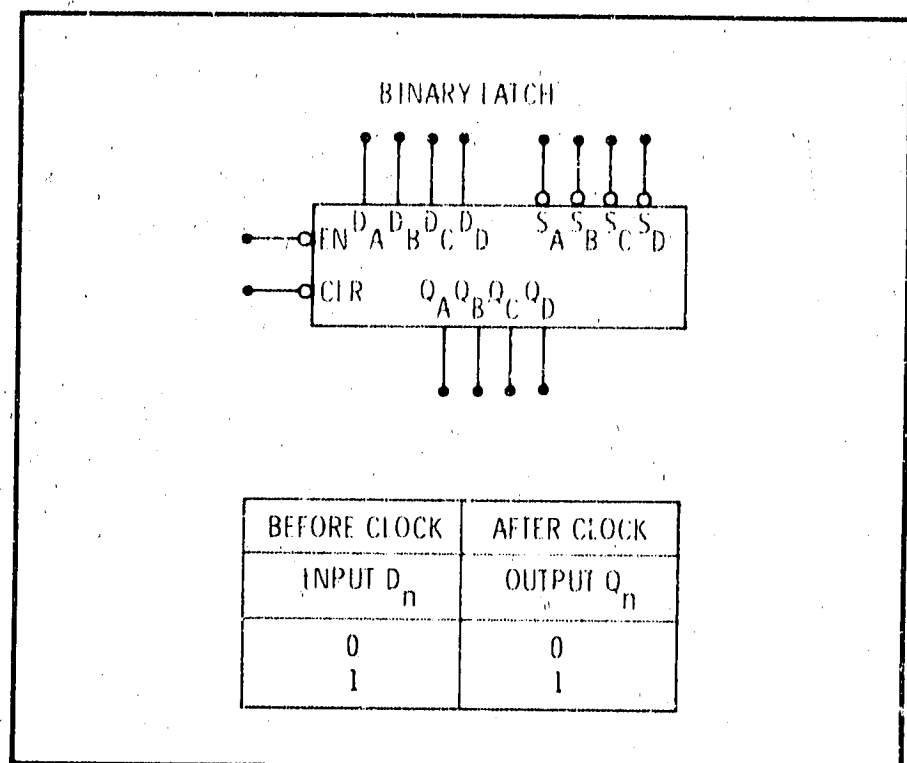

Figure 8-10. Binary Latch
8-53. **Binary Latch.** The four bit binary register shown in Figure 8-10 is used as a storage latch. Information data (D_n)¹ inputs are transferred to the respective Q_n ¹ outputs when the enable (EN) input is low. When the enable goes high, the outputs are latched and are no longer affected by the data inputs.